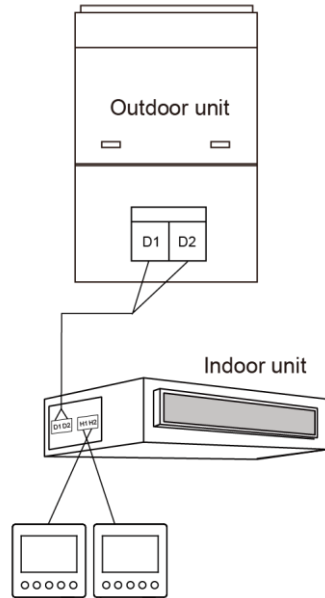

Fig. 3.5 Two wired controllers control one indoor unit
- (1) When one wired controller controls multiple indoor units simultaneously, the wired controller can connect to any one indoor unit, but the connected ones must be units of the same series. The total quantity of indoor unit controlled by wired controller can't exceed 16 sets, and the connected indoor unit must be within the same network. The number of indoor units in group control must be set. Please refer to section 3.2.2 Parameter Setting for the setting method.
- (2) When two wired controllers control one indoor unit, the addresses of those two wired controllers should be different. One should be master controller and the other should be slave controller. Please refer to section 3.2.2 Parameter Setting for the setting method.
- (3) When two wired controllers control multiple indoor units simultaneously, they can connect to any one indoor unit, but the connected ones must be units of the same series. One should be master controller and the other should be slave controller. Please refer to 3.2.2 Parameter Setting for the setting method of master and slave wired controllers. The total quantity of units controlled by wired controller can't exceed 16 sets, and the connected indoor units must be within the same network. The number of units in group control must be set. Please refer to section 3.2.2 Parameter Setting for the setting method.
- (4) When one (or two) wired controller(s) control (s) multiple indoor units at the same time, the controlled units should have the same setting.
- (5) Network connection of wired controller and indoor units must be according to one of the four wiring methods as shown in fig 3.4-3.7. As for the connection method shown in fig 3.5 and 3.7, there should be only one master wired controller (address is 01) and one slave wired controller (address 02). The quantity of wired controller can't exceed two.
- ① Common Multi VRF Units;
- ② Fresh Air Units;
- ③ Double-heat Sources Units;
- ④ Combined Units; Except for fresh air units, double-heat sources units and combined units, the rest of indoor units belong to common multi VRF units.